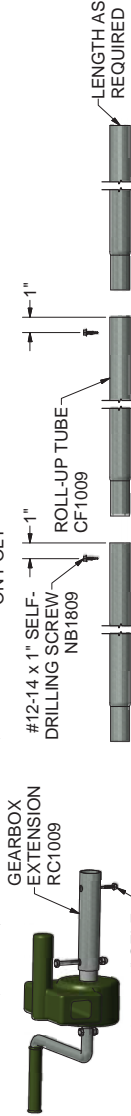

FIGURE 2
3. ASSEMBLE 9'-8" ROLL UP TUBE SECURE SECTIONS TOGETHER WITH #12 x 1" SELF-DRILLING SCREWS. [FIGURE 2]